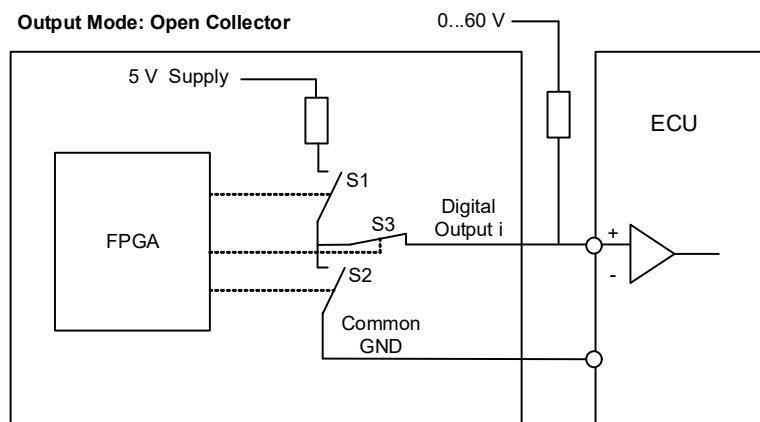

Fig. 3-2 Schematic Circuit Diagram of a Digital Output
A schematic diagram for a digital output is shown in Fig. 3-2 on page 26.
- The pull-up resistor determines the voltage level of the signal. In the column "Output Mode" in the "Signals" tab, you can choose between an internal pull-up resistor ("Pull-Up to +5 V") and an external pull-up resistor ("Open Collector"), see Fig. 3-2.